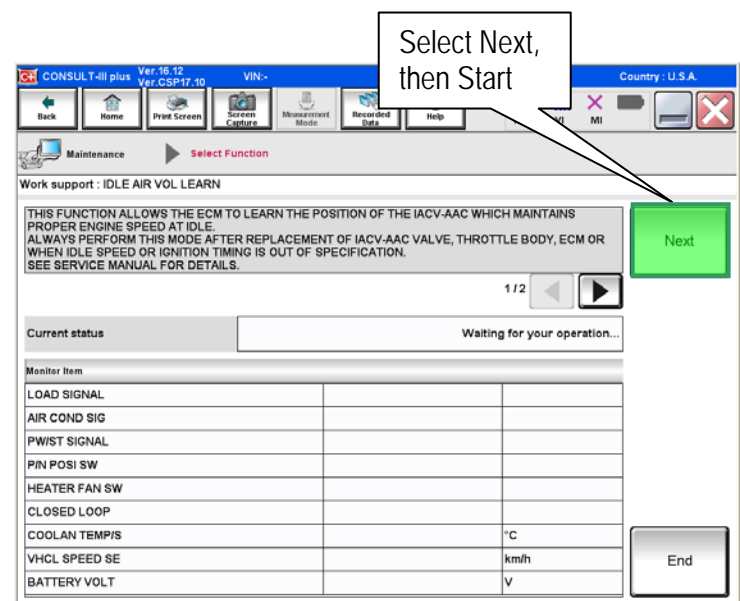

Figure 3
- d. Press "Next" then "Start" on the IDLE AIR VOL LEARN screen. See Figure 3.